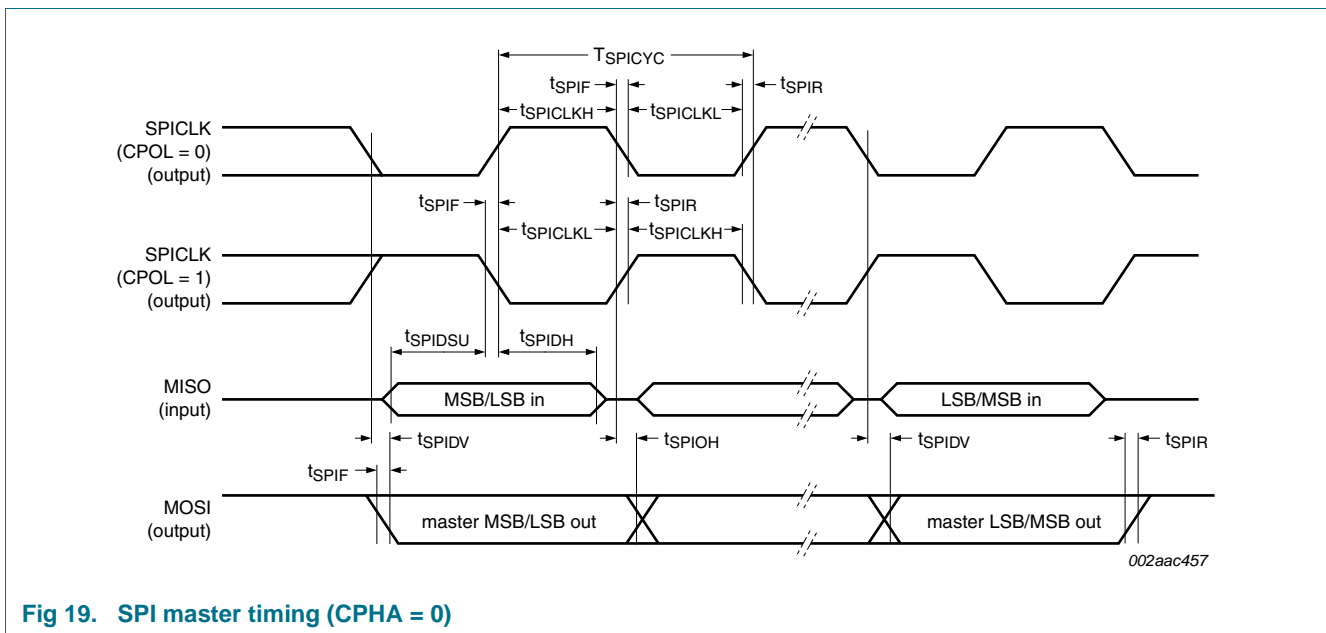
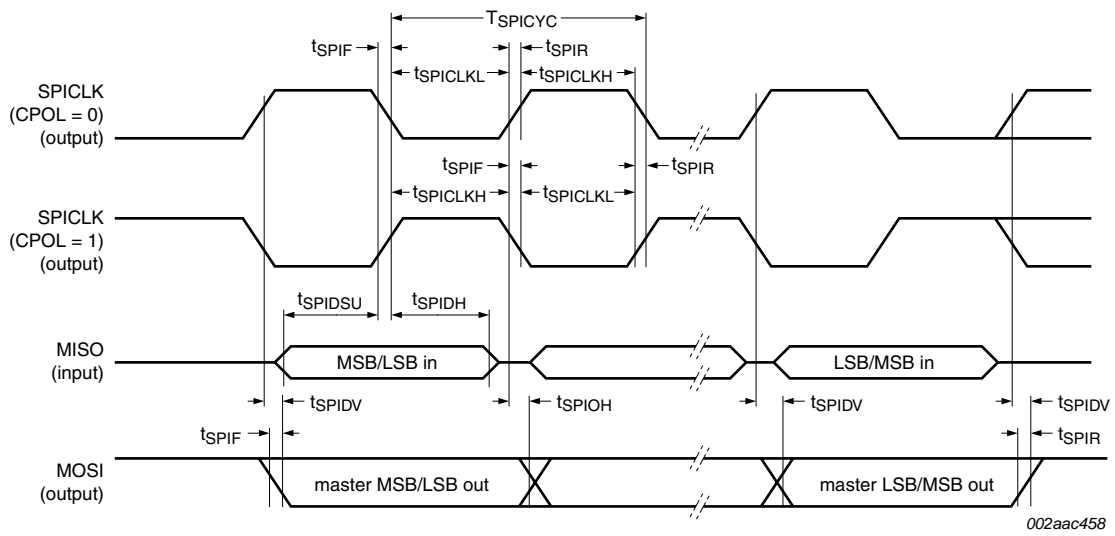
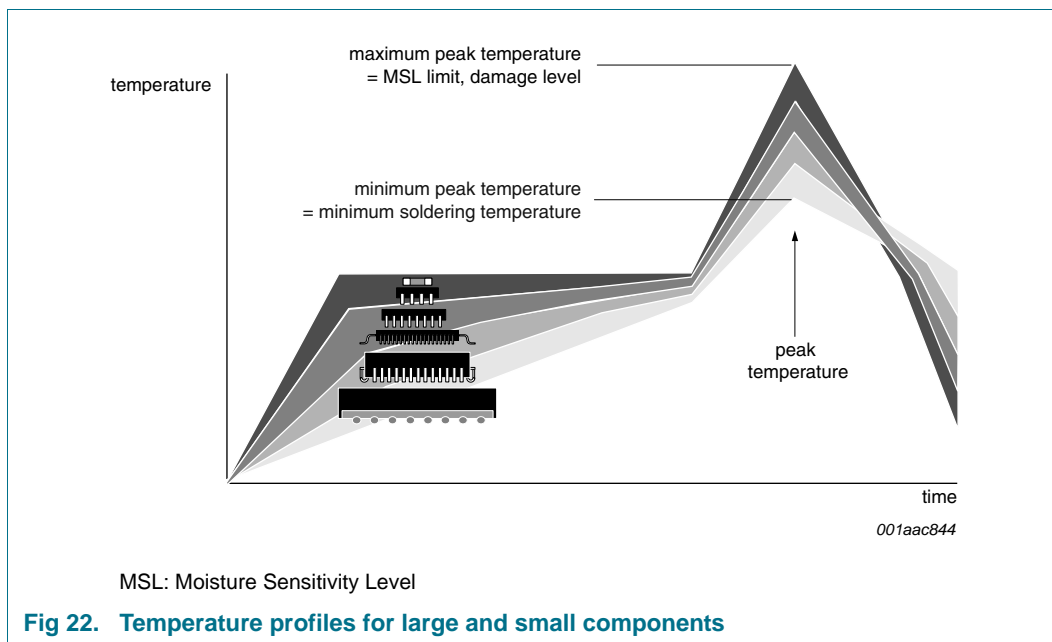

Fig 19. SPI master timing (CPHA = 0)
Fig 20. SPI master timing (CPHA = 1)
Fig 22. Temperature profiles for large and small components
- Lead-free versus SnPb soldering; note that a lead-free reflow process usually leads to higher minimum peak temperatures (see Figure 22) than a SnPb process, thus reducing the process window
Studies have shown that small packages reach higher temperatures during reflow soldering, see Figure 22.
<ul style="list-style-type: none"> • Type number SC18IS603IPW (basic type SC18IS603) removed from data sheet. • Type number SC18IS602IPW (basic type SC18IS602) removed from data sheet. • Deleted (old) Section 7.2, “External clock input (SC18IS603)” • Table 11 “Limiting values”: deleted (old) table note [1]. Refer to Section 16.3 “Disclaimers”, sub-section “Limiting values”. • Table 12 “Static characteristics”: <ul style="list-style-type: none"> – I_{DD(oper)}: removed characteristics for condition f = 12 MHz – I_{DD(oper)}: removed characteristics for condition f = 18 MHz – I_{DD(idle)}: removed characteristics for condition f = 12 MHz – I_{DD(idle)}: removed characteristics for condition f = 18 MHz • Table 13 “Dynamic characteristics”: <ul style="list-style-type: none"> – deleted sub-section “External clock input” – deleted “Variable clock” Min and Max columns – f_{SPI}: changed Condition from “4.5 MHz” to “1.843 MHz” – f_{SPI} Max. value changed from “4.5 MHz” to “1.843 MHz” – T_{SPICYC}: changed Condition from “4.5 MHz” to 1.843 MHz” – T_{SPICYC} Min value changed from “222 ns” to “543 ns” – t_{SPICLKH}: changed Min value from “111 ns” to “271 ns” – t_{SPICLKL}: changed Min value from “111 ns” to “271 ns” – t_{SPIDV}: removed characteristics for condition “4.5 MHz” – t_{SPIDV}: removed condition “3.0 MHz” • Figure 19 “SPI master timing (CPHA = 0)” modified: changed from “T_{CLCL}” to “T_{SPICYC}” • Figure 20 “SPI master timing (CPHA = 1)” modified: changed from “T_{CLCL}” to “T_{SPICYC}” • Deleted (old) Fig. 22. “External clock timing”